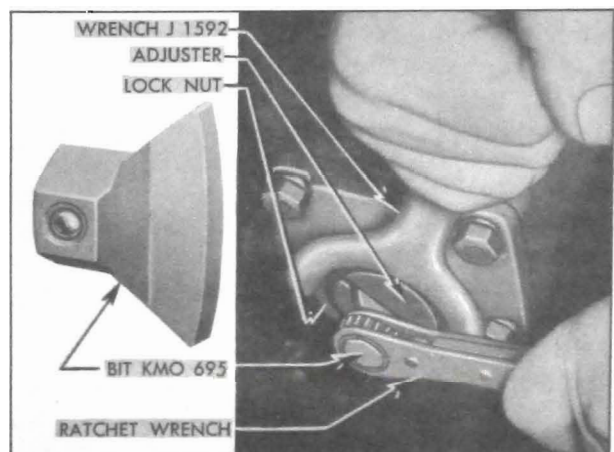

Figure 8-4—Adjusting Worm Thrust Bearings
6. Tighten housing end cover bolts. Loosen worm thrust bearing adjuster lock nut, using Wrench J 1592. Turn thrust bearing adjuster, using Adjuster Bit KMO 695 and a ratchet wrench, until a slight load is felt when turning steering wheel near extreme positions, then tighten lock nuts. See figure 8-4. CAUTION: Do not back out adjuster far enough to permit thrust bearings to get out of line with ends of worm.